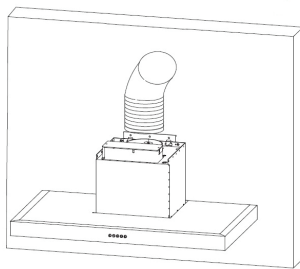

Fig. 8
8. Drill holes and attach the lower chimney part bracket as shown in Fig. 8.